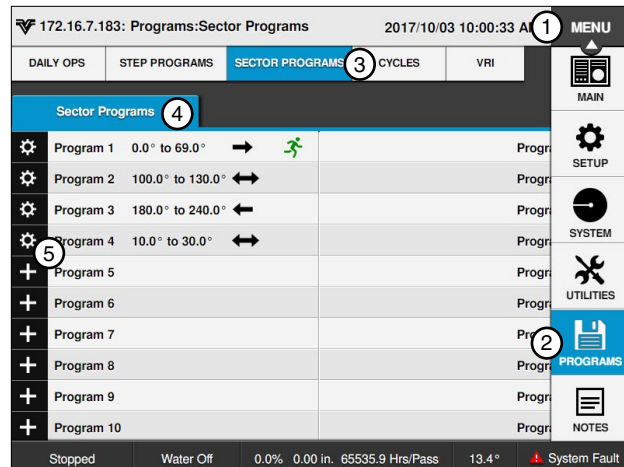

Figure 142-1 1. Menu 2. Programs 3. Sector Programs 4. Sector Programs 5. Add Program
1. Push **Menu**, **Programs**, and **Sector Programs** to view the Sector Programs screen. Refer to Figure 142-1.